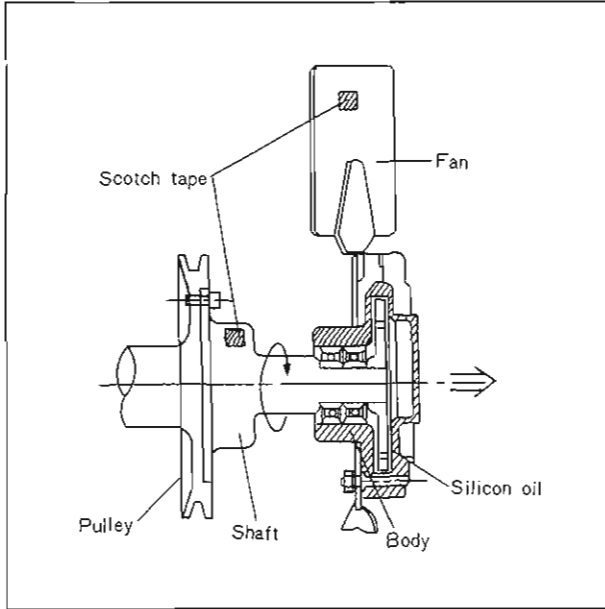

Fig. 3-8 Fan drive assembly
1. Stick scotch tape on the fan drive shaft and fan as shown in Fig. 3-8.